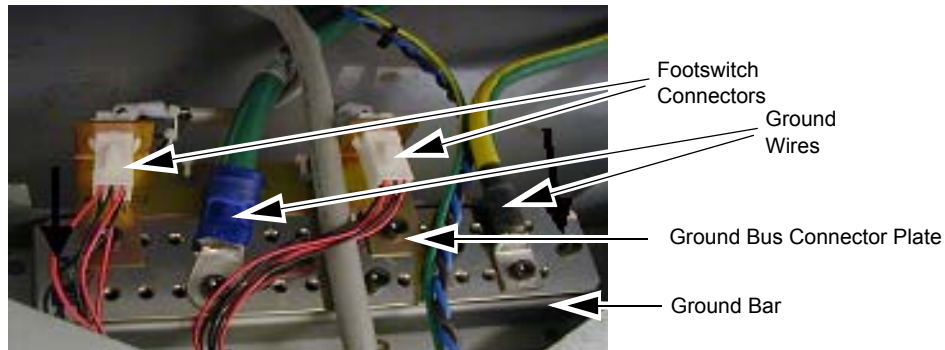

Figure 1-53 Footswitch Ground/Bus Bar
- 11.) Connect the ground wires (not all shown in Figure 1-53) to the installed ground bus: Torque to 7.9Nm (5.8lb-ft)